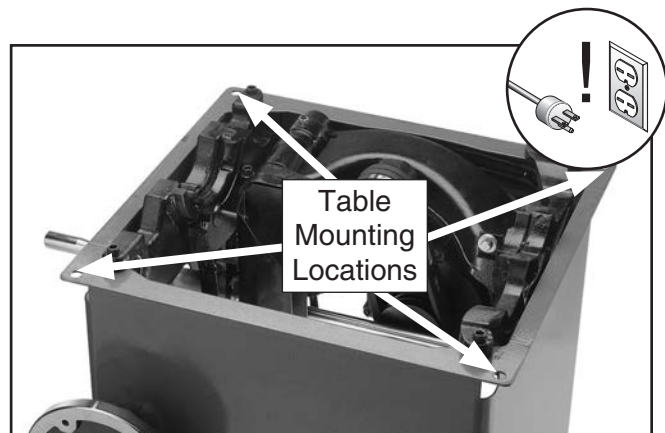

Figure 107. Table mounting bolt holes (table top removed for clarity).
7. To adjust the table, loosen the four bolts in the table mounting locations (see **Figure 107**) and lightly tap the table in the direction needed to square the table to the blade. Repeat **Steps 3-6** until the blade and miter slot are parallel. Do not forget to tighten the table mounting bolts when finished.
2. Loosen the four table mounting bolts (**Page 62, Figure 107**) and adjust the table until the blade does not contact the insert. Tighten all the mounting bolts.